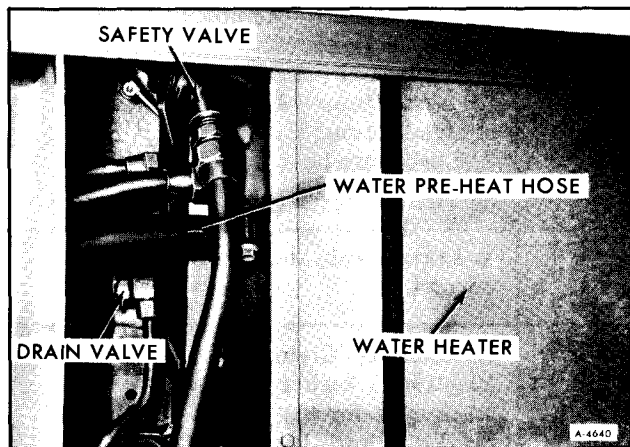

Figure 2—Water Heater - Type 1
3. Turn off water heater at switch located in Living Area Electrical Compartment. Open the water heater drain valve. The type 1 water heater drain valve is located at the front of the heater (figure 2). The type 2 water heater drain valve is located under the center of the water heater body (figure 42).